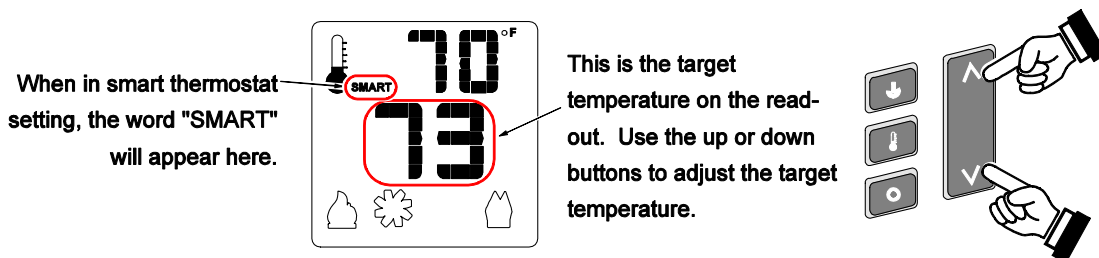

Figure 7
- **SMART THERMOSTAT** – While in smart thermostat, the transmitter will control the burner to achieve the target temperature (see Figure 7 below). Flame height will be adjusted up or down to allow operation without turning the burner on and off (also called “smart modulation”). To adjust the target temperature, press the UP and DOWN buttons until a suitable temperature is achieved.